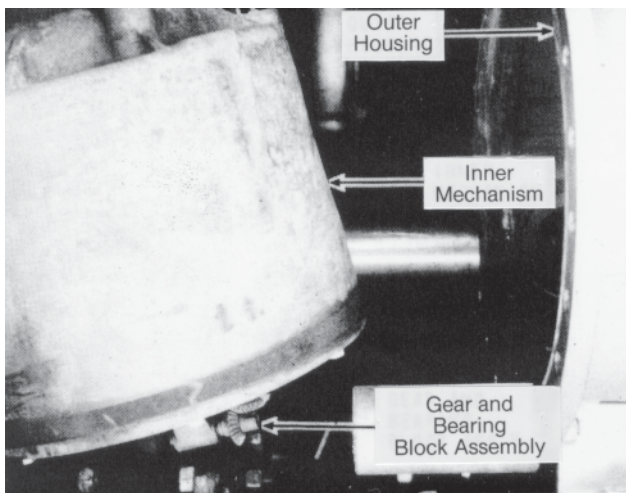

Figure 17 –Inner Mechanism Removed
- Figure 17 shows the inner mechanism suspended from the hoist. Be careful not to damage the gear and bearing block assembly attached to the inner cover.